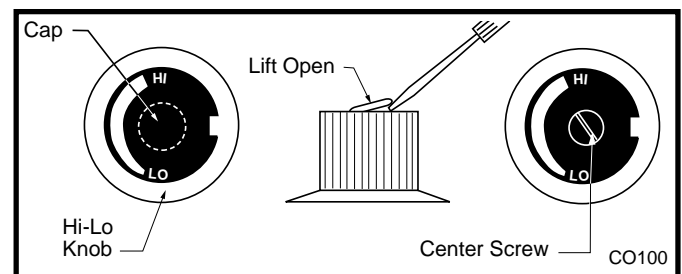

Fig. 60 Remove center screw from Hi-Lo knob.
10. Remove cap from Hi-Lo knob. This can be accomplished by lifting the plastic cap off the screw. (Fig. 60)
11. Remove the screw from center of Hi-Lo knob with small screwdriver turning counterclockwise. (Fig. 60)